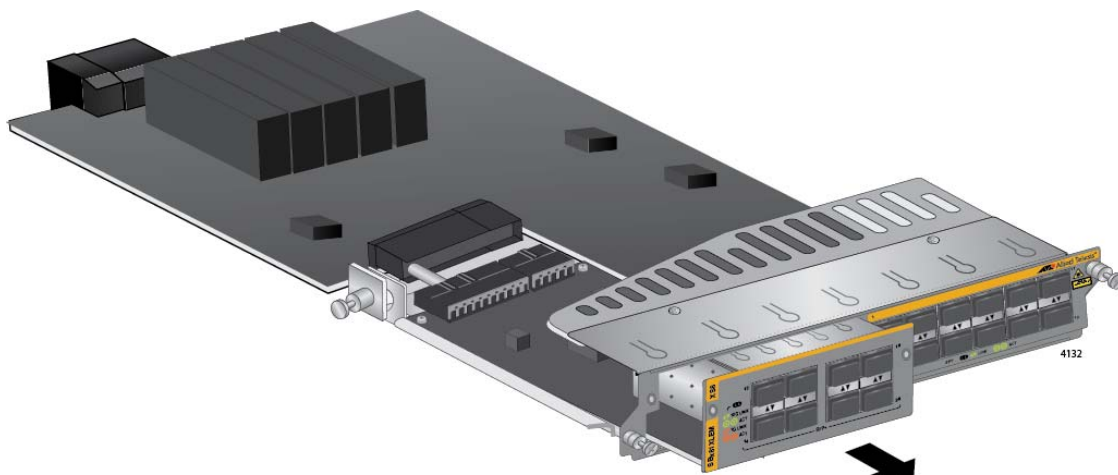

Figure 185. Sliding the Expansion Module from the AT-SBx81XLEM Line Card
6. Slide the expansion module from the line card. Refer to Figure 185 on page 304.